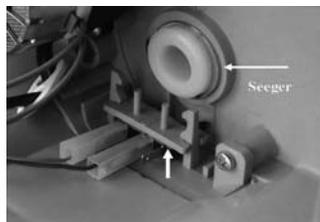

Fig. 10
- The plastic parts are damaged. Open the case. Verify the integrity of the plastic parts that hold the microswitch (see Fig. 10).
- The microswitch is damaged. Open the box and check (Fig. 10): integrity of microswitch; correct placement of microswitch; correct placement of terminals; integrity of wires; integrity of the lever that activates the microswitch.
- The cam is out of place. Open the case (Fig. 10). Verify that the Seeger ring that locks the cam is integer and correctly placed in its housing. Moving the cam with your hands, verify that it activates the microswitch lever.
Fig. 10 clearly shows the microswitch, the mechanical parts for mounting and command, and the terminals connecting to the controller.